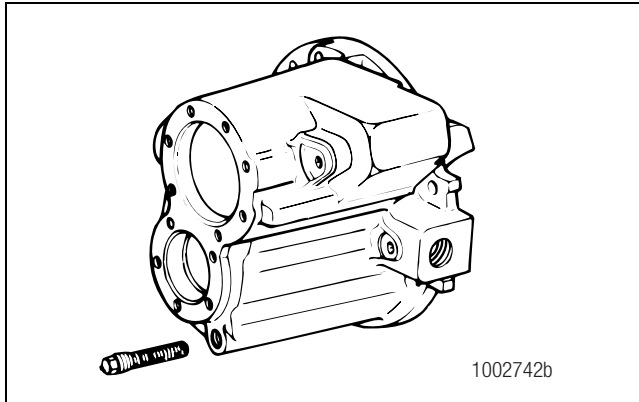

Figure 3.38
11. Remove the oil screen and plug assembly from the suction line at the front of the carrier. Figure 3.38.